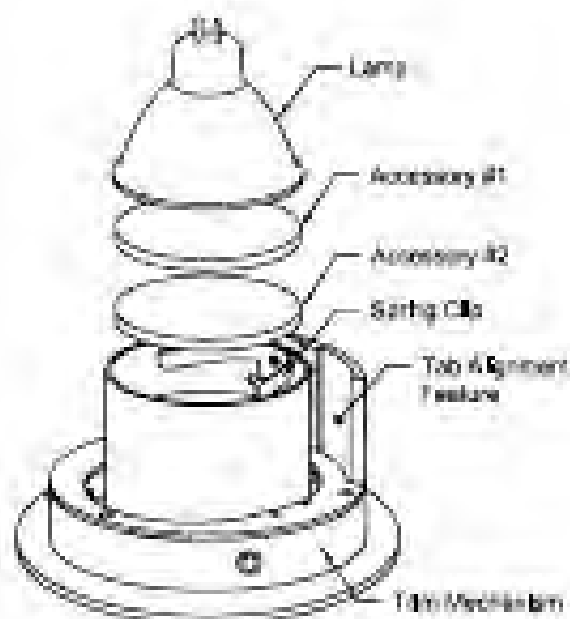
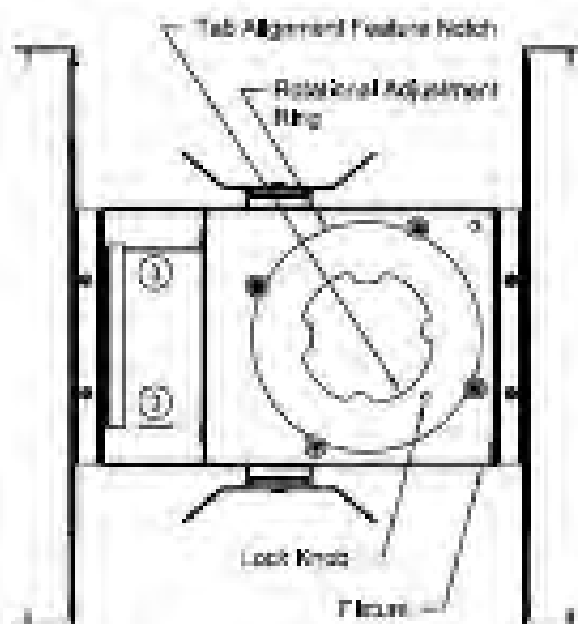

Figure 3
Figure 4
2. Slide out Lamp and/or accessories from under Bracket Arm to remove. See Fig. 3.
4. To ensure original light beam placement, align Tab Alignment Feature on Trim Mechanism (See Fig. 3 & 4) with Tab Alignment Feature on Rotational Adjustment Ring inside Fixture (See Fig. 4).
3. Tighten Lock Knob Inside Fixture to lock Rotational Adjustment Ring. See Fig. 4.